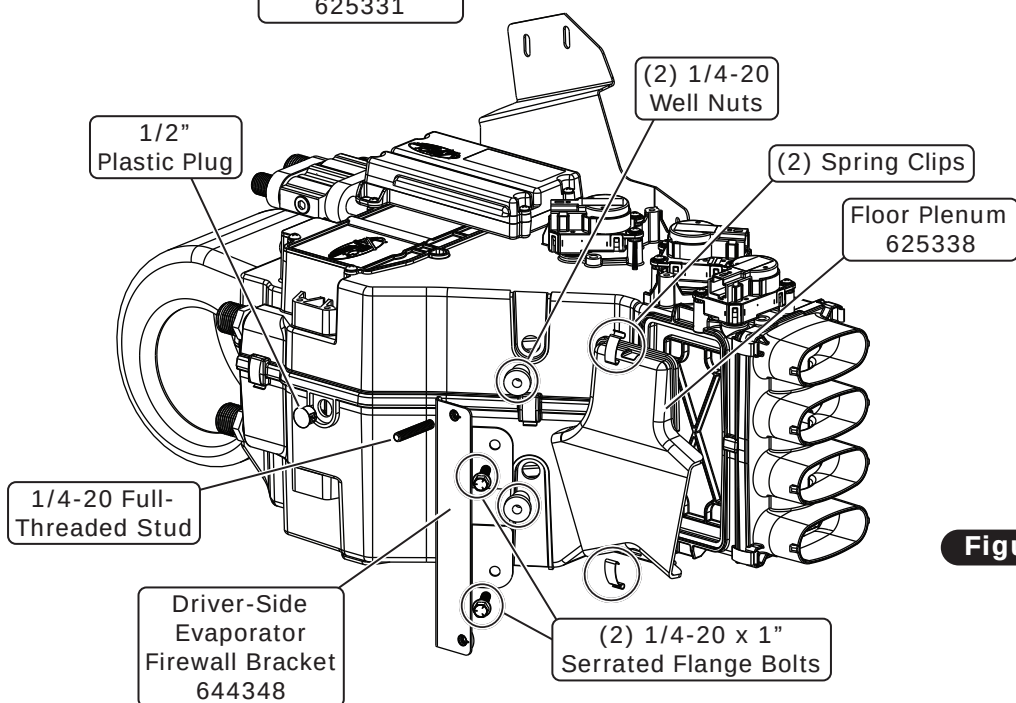

Figure 2
5. Install the plastic plug at the location shown in Figure 2, below.
6. Install (2) 1/4-20 well nuts as shown in Figure 2, below.
7. Install the floor plenum onto the evaporator module with (2) spring clips.
8. Install the driver-side evaporator firewall bracket onto the evaporator module with (2) 1/4-20 x 1" serrated flange bolts.
9. Install a 1/4-20 full-threaded stud onto the driver-side evaporator firewall bracket as shown in Figure 2, below.